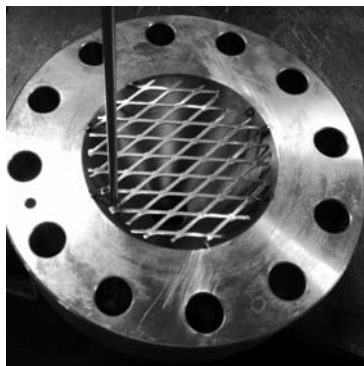

Figure 6 RTD through Centered Mesh Disk
**NOTE:** RTD Only: See Figure 6. Arrange mesh disk so the RTD probe can pass through into its respective tube. Ensure the mesh disk is still centered in the cone.